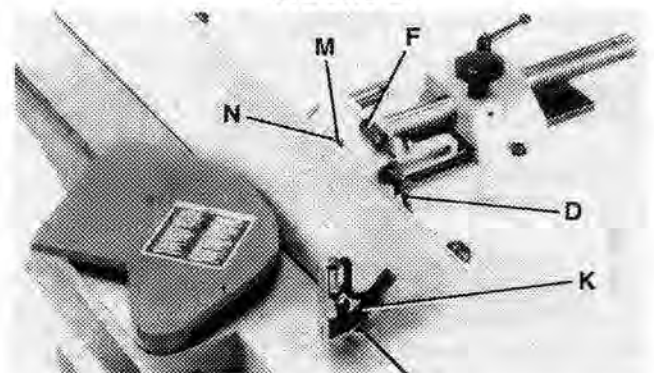

FIGURE 38
5. Rotate flip stop (F) Fig. 38, tilt fence outward as far as it will go and tighten locking handle (D). Place a square (K) on the table and against the fence to check if the fence is 45° outward to the table.
6. If an adjustment to the positive stop is necessary, loosen locking handle (D) Fig. 38, and lock nut (M). Rotate adjustment screw (N) until you are certain the fence is 45° outward the table.